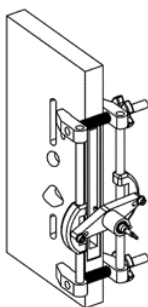

Fig. 6
- Clamp the Mortising fixture on door as per the mortise body cavity shape marking done with MARKER Ref Fig. 6.